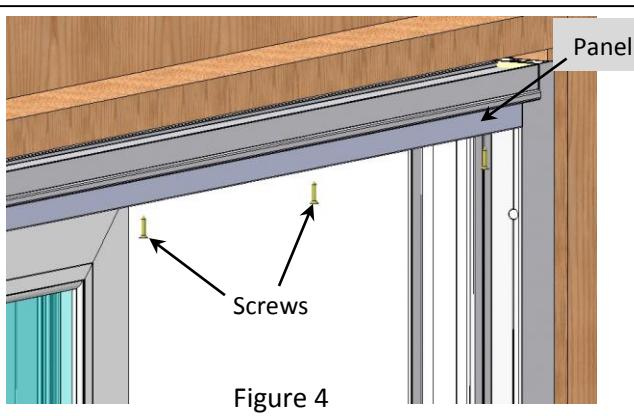

Figure 4
- 3) Fully open the Operating Panel. Remove the exposed screws that fasten the Panel Retainer to the head of the door as shown (Fig. 4). Once removed, close the Operating Panel completely and remove the remaining screws at the other end of the Panel Retainer.